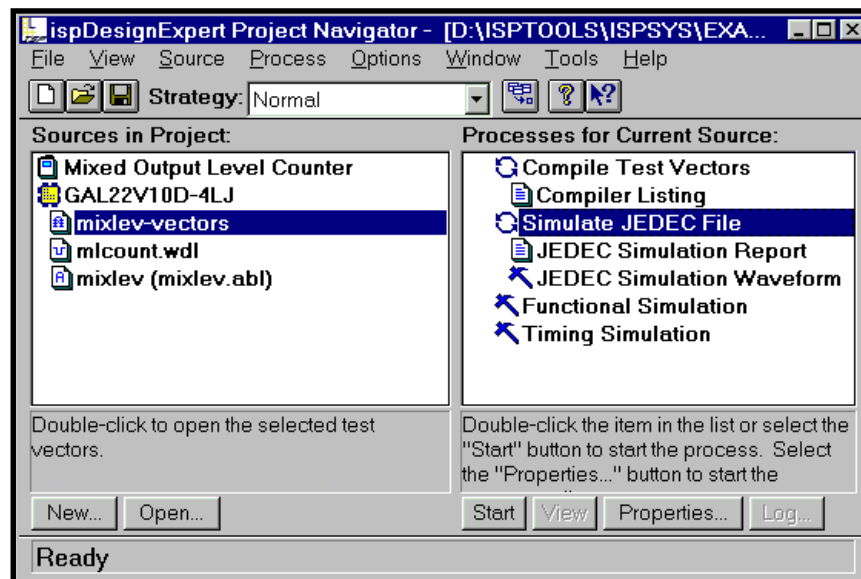

Figure 5-11. Running JEDEC Simulation
2. Double click the **Simulate JEDEC File** process from the Processes window or click the **Start** button to run the process (Figure 5-11).